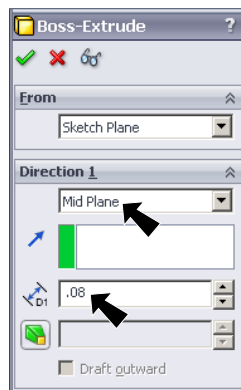

Fig. 9
Step 5. In the Property Manager set: under Direction 1, **Fig. 9** End Condition **Mid Plane**